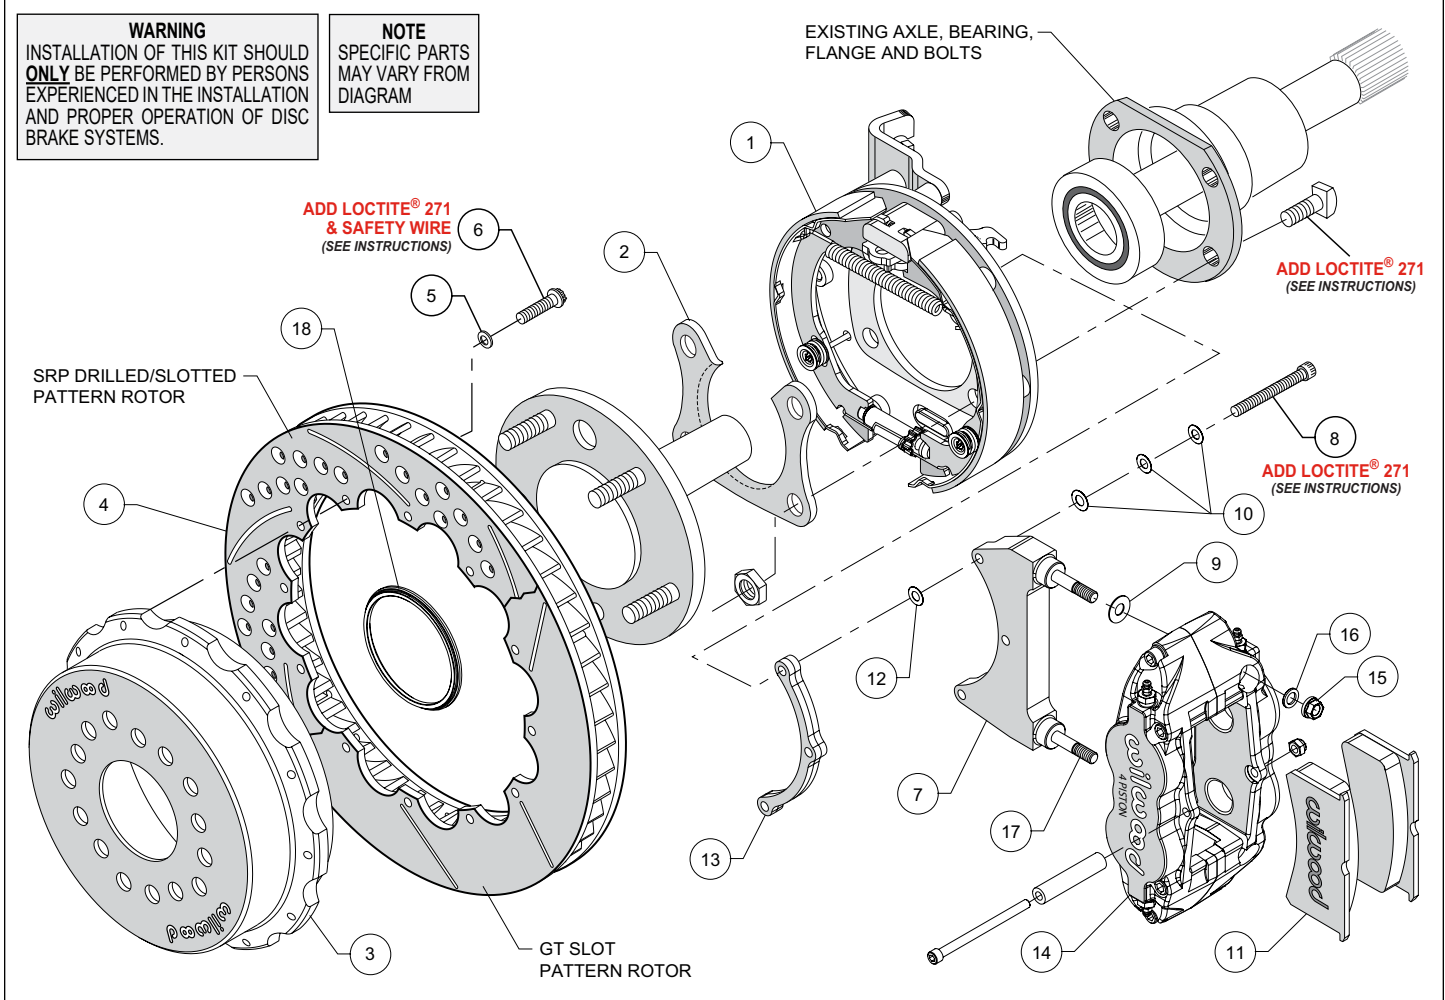
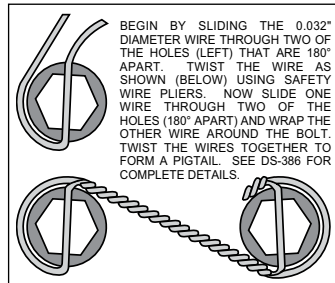

Figure 1. Typical Installation Configuration
Figure 5. Safety Wire Diagram
Assembly Instructions (numbers in parenthesis refer to the parts list and Figure 1 on the preceding pages): **CAUTION:** All mounting bolts must fully engage insert nuts. Be sure to check that all bolts are either flush or protruding through flanged side of insert nut after shimming.
- Orient the bracket assembly (1) as shown in Figure 1 and Photo 1 and slide it onto the axle. Insert the axle and bracket into the axle housing. Ensure that the bracket assembly backing plate fits flush against the axle housing flange.
- Install the bearing retainer (2) with the opening pointing upward and the lip facing inward (toward the bearing), as shown in Figures 1 and 4, and Photo 2. Secure retainer and bracket assembly to the axle housing flange using the Original Equipment Manufacturer (OEM) bolts, washers, and nuts, Figure 1. Apply red *Loctite*® 271 to the OEM bolt threads and torque to OEM specifications.
- **NOTE:** Please reference the caution statement at the beginning of the assembly instructions. The caliper mounting bracket (7) should initially be installed with clean, dry threads on the mounting bolts. Orient the bracket as shown in Figure 1 and Photo 3, and install
using bolts (8) and three flat washers (10). Initially place one .015" shim washer (12) on each bolt between the bracket (7) and spacer (13), Figure 1. Temporarily tighten the mounting bolts. **NOTE: End of bolt should not exceed inside face of insert. The bracket must tighten squarely against the back side of the bracket kit assembly (1).** Later, after the caliper alignment has been checked, the mount bolts will be secured using red *Loctite*®.
- Orient the rotor (4) and the hat (3) as shown in Figure 1 and Photo 4. Attach rotor to hat using bolts (6) and washers (5). Apply red *Loctite*® 271 to the bolt threads and torque to 155 **in-lb** using a criss-cross pattern. For an added measure of security, the bolts may be safety wired using standard 0.032 inch diameter stainless steel safety wire as shown in Figure 5. Please refer to Wilwood's data sheet DS-386 (available at www.wilwood.com/Pdf/DataSheets/ds386.pdf) for complete safety wire installation instructions.
- Slide the rotor registration adapter (18) onto the axle register on the axle flange with the smaller O.D. facing toward the rotor/hat (3/4), Photo 5. Align the hole pattern in the hat with the stud pattern on the axle flange and slide into place, Figure 1 and Photo 6. **NOTE: The rotor/hat must fit flush against the axle flange or excessive rotor run out may result.** Install three lug nuts (finger tight) to keep the rotor/hat assembly in place while continuing with the installation. **NOTE: Some OEM and after market axles come with stud sizes larger than 0.50" diameter. Verify stud size and have a qualified machine shop drill the bolt circle of the hat/rotor to the correct stud size, if necessary.**
- Initially place one .035" thick shim (9) on each stud as shown in Figure 1 and Photo 7. Mount the caliper (14) onto the bracket (7) using lock nuts (15) and washers (16), Figure 1. Temporarily tighten the lock nuts and view the rotor through the top opening of the caliper. The rotor should be centered in the caliper, Photo 8. If not, adjust by adding or subtracting shims (12) between the bracket (7) and the spacer (13). Always use the same amount of shims on each of the three mounting bolts. Once the caliper alignment is correct, remove the bracket mounting bolts (8) one at a time, apply red *Loctite*® 271 to the threads, and torque to 180 **in-lb**.